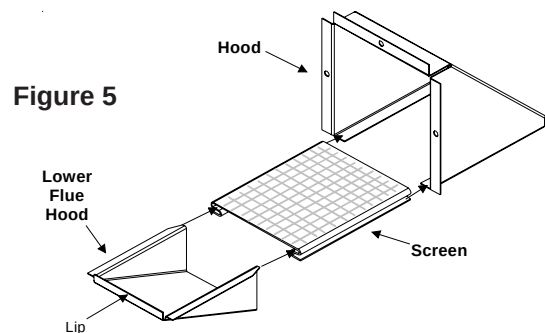

Figure 5
3. Ensure bug screen is positioned properly (Figure 5). If screen is present and positioned properly, skip Step 4.
5. Slide screen over flanges on the lower flue hood. (Figure 5).